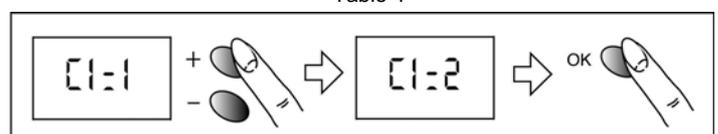

Fig.10
1. After transmitting a signal to each heater in all necessary zones, 'C1=1' will be displayed (see Table 4 and Fig.10)